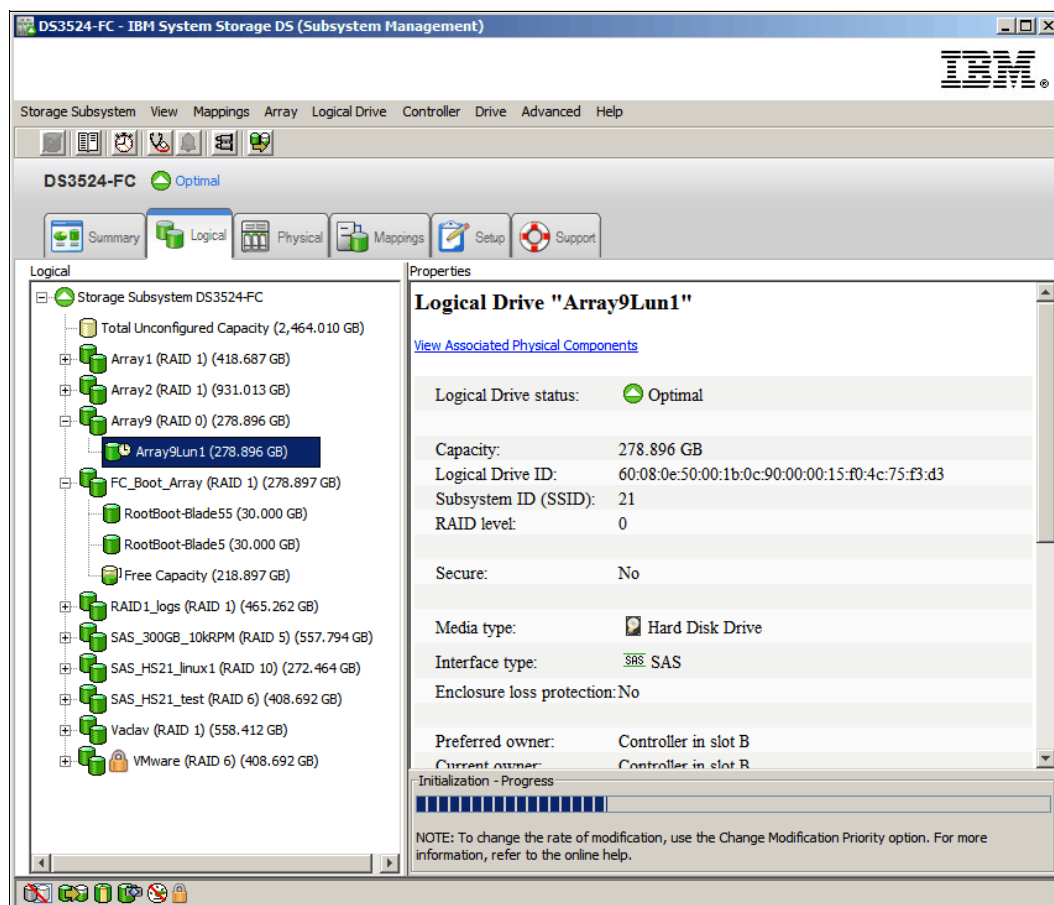

Figure 14-128 Initialize logical drive progress
4. You can monitor the progress of the logical drive initialization by selecting the logical drive in the Logical tab as shown in Figure 14-128 on page 414.
4. You can monitor the progress of each logical drive initialization in that array by selecting the logical drives in the Logical tab as shown in Figure 14-128 on page 414.